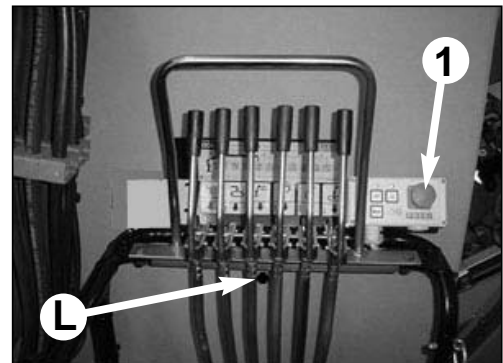
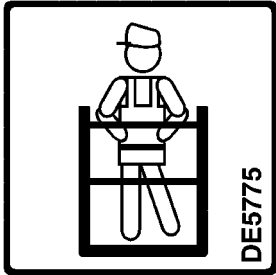

fig. 15
fig. 16b
On the control panel, further to the control levers and to the plates, we can find the supplementary electric control panel (fig. 15 pos. 1).
The operator's presence in the stand-up control station activates photocell L (fig. 15) that automatically prevents the crane from rotating above the station and activates the flashing of the green light in the different control panels near the plate DE5775 (fig. 16b).
Before accessing the stand-up control station make sure that the photocell L pilot-light (fig. 15) is turned on and green; then check its correct functioning: if put your hand in front of the photocell the pilot-light shall turn yellow (thus enabling the limitation of the rotation path). Besides, when entering the stand-up control station, before starting the crane operation, check that the limitation of the rotation path is active, see the flashing of the green light.